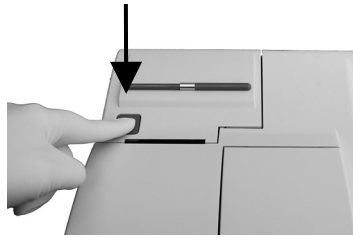

Fig. 7-28 Open Printer Cover
1. Press the red printer release button on the printer cover to access the printer (Fig. 7-28).